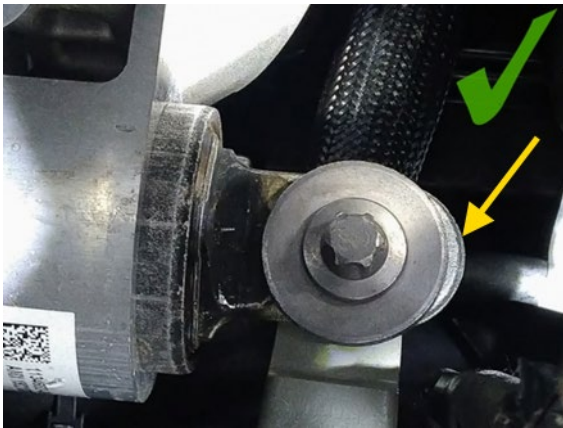
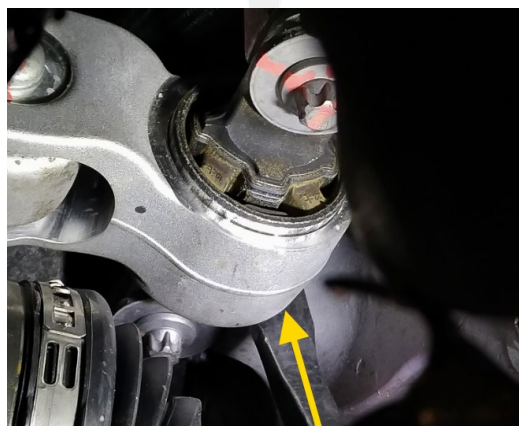

Figure 5
Figure 8
- If the clevis is visible past the front edge of the foremost washer (Figure 5), the clevis does not require repositioning; skip to step 3.
- c. Position a prybar between the clevis and body (Figure 8), and then pry the clevis towards the front of the vehicle until the clevis is visible past the front edge of the foremost washer (Figure 5).
NOTE: Make sure the clevis remains visible past the front edge of the foremost washer (Figure 5).